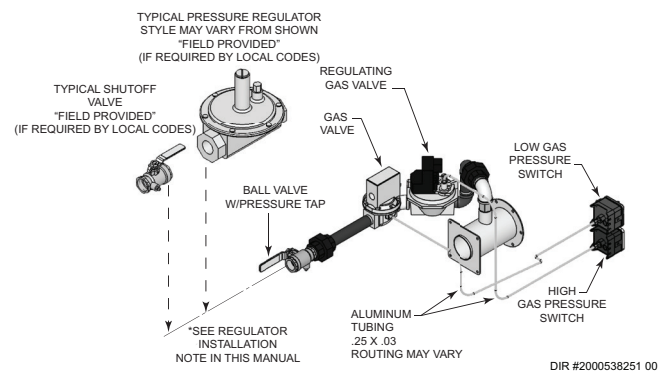

Figure 4-3A_PB 502 - 1302 F9 High & Low Gas Pressure Switches
- Figures 4-3A, B, and C on page 49 show piping connections for high and low gas pressure switches for respective Power-fin models.